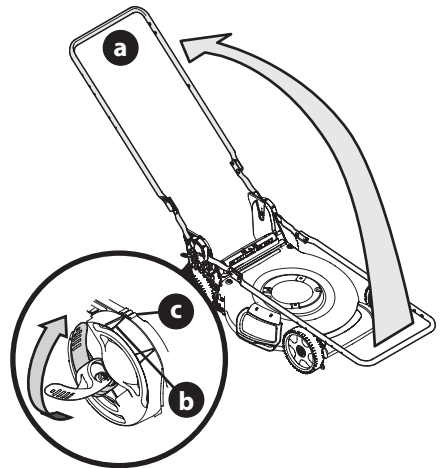

Figure 9
5. While stabilizing mower so it doesn't move, lift the upper handle up (a) (Figure 9). Do not crimp blade control cable while lifting the handle up.
6. When lifting the upper handle ensure the position indicator (b) aligns with one of three handle positions (c) (Figure 9, inset).
7. Lock the two handle release levers (Figure 9, inset).